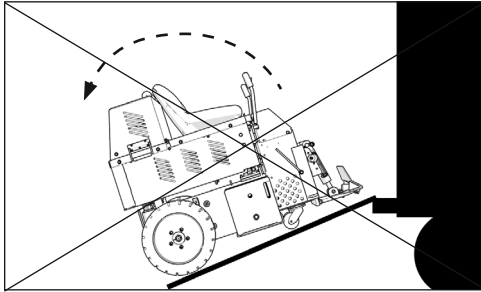

FIG. 2
**CAUTION:** MACHINE IS BACK HEAVY. DO NOT RUN ON STEEP INCLINE THIS COULD CAUSE MACHINE TO TIP OVER! (FIGURE 2). DO NOT USE A RAMP TO MOVE MACHINE.